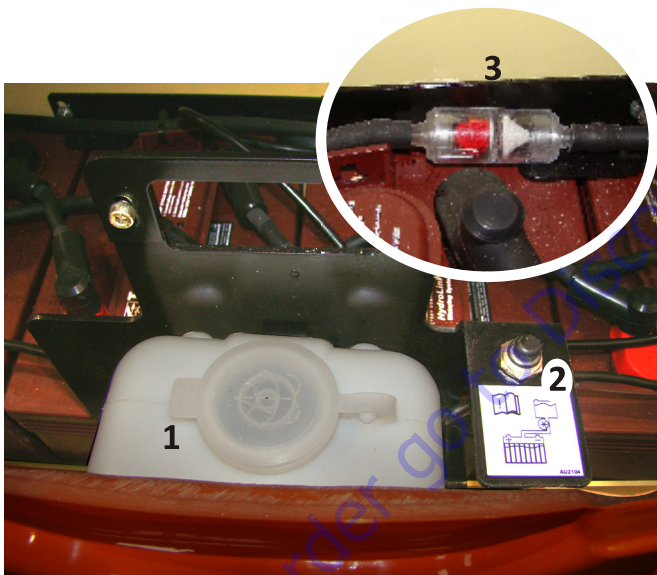

Figure 6-6. Adding Water to Batteries
- Disconnect and clean the **filter (3)** (See Figure 6-6.) by reversing the water flow from the normal direction.